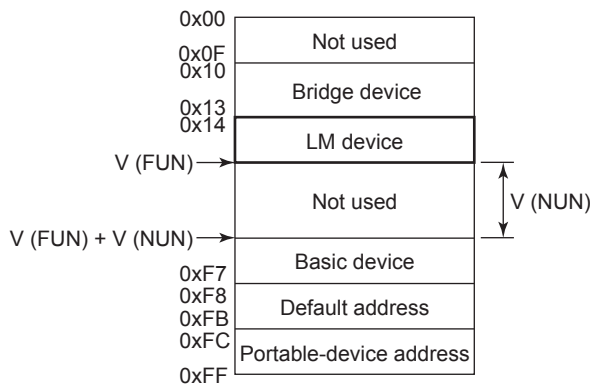

Figure A7.3 Node Address Ranges
- (3) In the LAS settings of the digitalYEWFLO, set the values of V(FUN) and V(NUN) so that they include the node addresses of all nodes within the same segment. (Read Figure A7.3.)